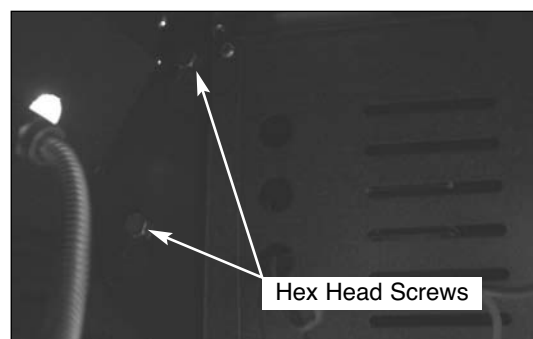

Fig 4
4. Loosen the four (4) hex head screws on the right side of grill head assembly under the side burner shelf for approximate 0.5". Then lift and take off the side burner shelf and set aside. (See Fig. 4)
24. Attach the side burner shelf onto the grill head assembly, and tighten the four (4) screws with a wrench. (See Fig. 4 on page 2)